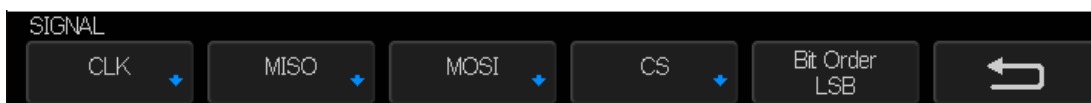

Figure 40: SINGAL Menu
4. Press **Signal** softkey to enter the **SIGNAL** menu as Figure 40 shows.